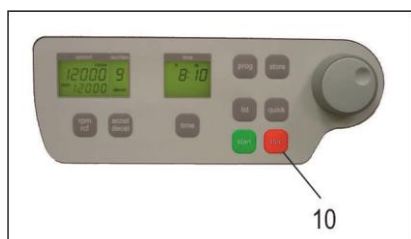

Figure26
With the "stop" key (10), the run time can be interrupted, at any time, (see Figure 26). After pressing the key, the centrifuge decelerates with the respective pre-selected intensity, down to a standstill.